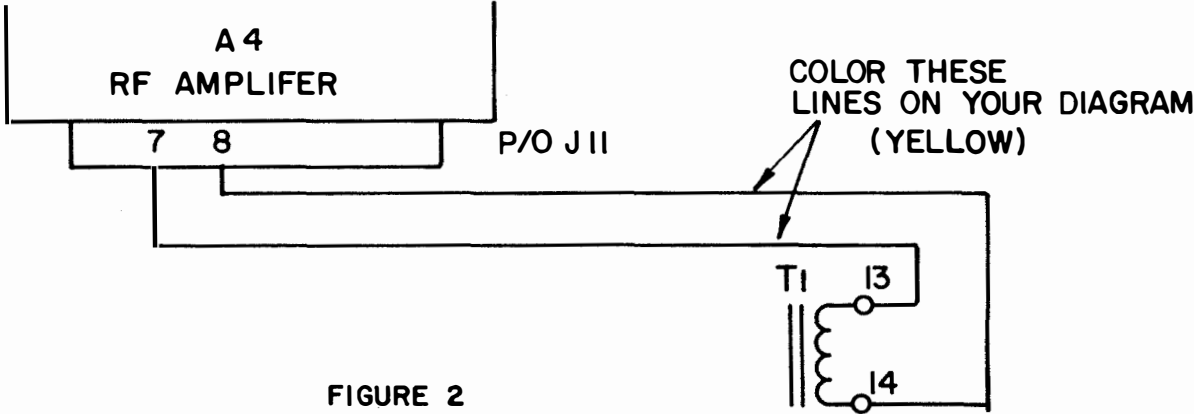

FIGURE 2
3. TRACE the 6.3 VAC from 2A2T1 pin 13, 14 to the 2A2A4 RF amplifier using yellow as the recommended color on page 11 using Figure 2.